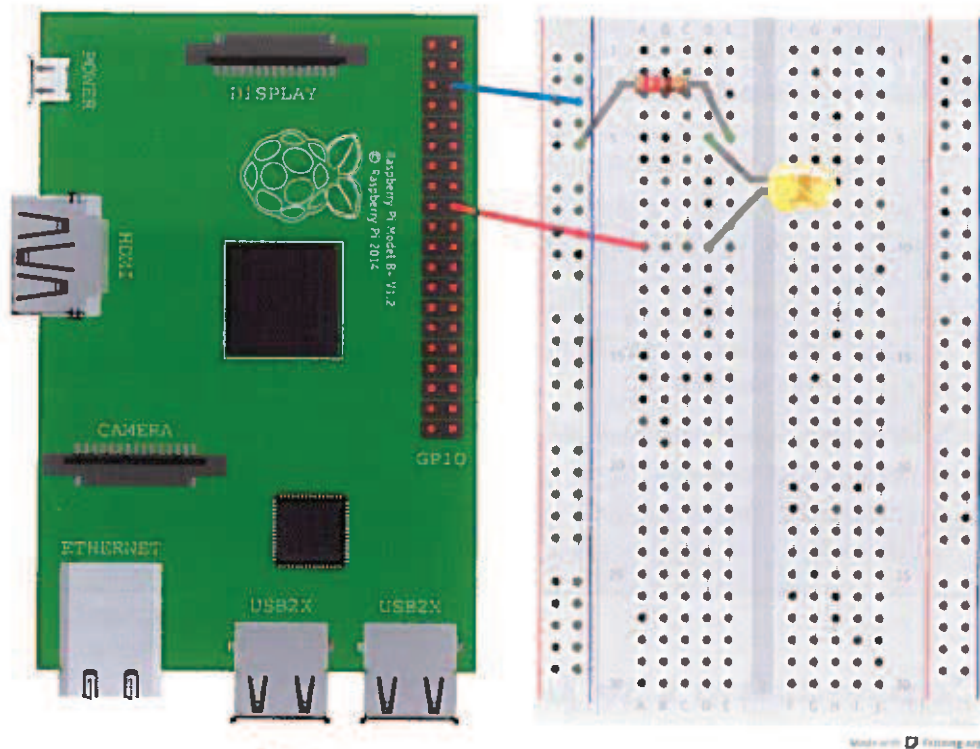

FIGURE 8-8 Circuit diagram to connect components to Raspberry Pi for a blinking LED
Before running your program to make the LED blink, you need to assemble the electronic components and connect them to the Raspberry Pi GPIO pins. Figure 8-8 shows the Raspberry Pi on the left and a breadboard on the right. Use this diagram and the following steps to help you connect the right cables and components in the circuit.
1. Start by plugging a female-to-male jumper cable from GPIO pin 24 of your Raspberry Pi to the A10 hole on your breadboard (the red cable in Figure 8-8). It helps to use different coloured wires. The jumper cable will easily fit onto the pins of your Raspberry Pi on one end, and into the holes on the breadboard. Make sure that you gently push them down as far as they will go to make a secure connection.
2. Next, plug another female-to-male jumper cable from a ground pin, sometimes represented as `GND` on Raspberry Pi GPIO diagrams (the blue cable). On a Rev 2 Raspberry Pi board, the third pin from the top on the outside strip is a ground pin (see Figure 8-8). Remember to use Dr Monk's Raspberry Leaf so that you know which pins are which!
Remember that LEDs can only pass current in one direction. For the LED to work, you must make sure that you place the longer leg into the same row (D10) as the jumper cable connecting to GPIO 24. The short leg must be placed into a hole on the same row as the resistor (D5). Refer to Figure 8-8 for guidance.